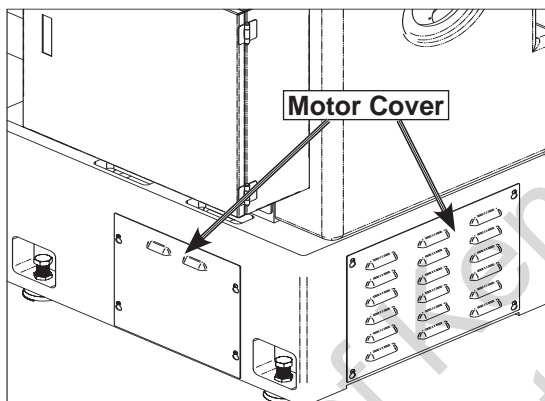

Figure 91. Location of motor cover.
3. Turn the hex nuts on the motor mount bolts shown in Figure 91 to move the motor mount plate up or down and adjust the V-belt tension. When correctly tensioned, each belt should have about 19mm deflection when pressed firmly.